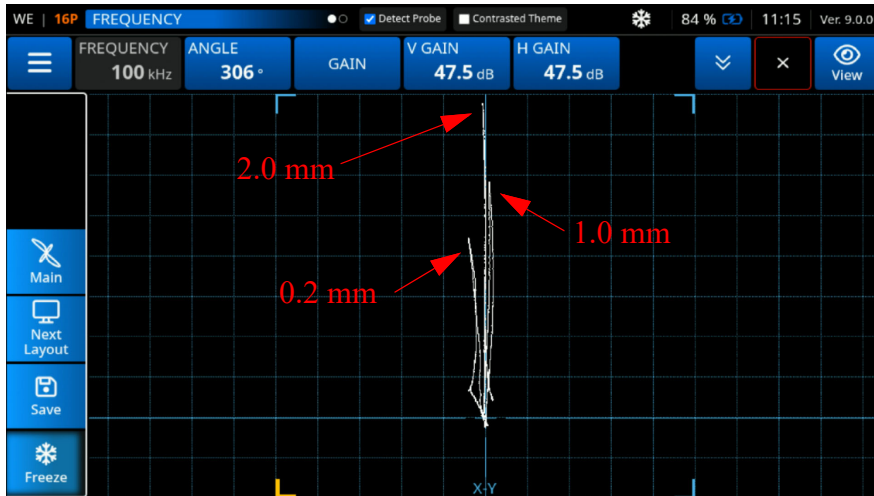

Figure 3-31 Confirm the Settings
12. Confirm the quality of the sensitivity setting, fine tuning the Angle and Gain further is required (See Figure 3-31 on page 67).